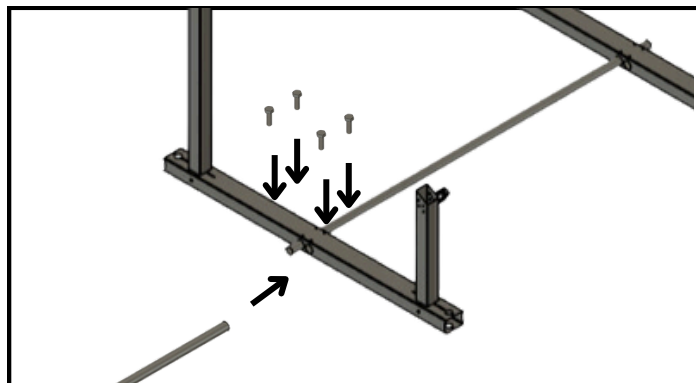

Figure 7
Slide the next IR-30s along the conduit pipe and space them roughly where they will need to be according to your solar module's width (make sure the conduit pipe goes through the same opening on each IR-30). Once the end of the first conduit pipe is reached, insert the next conduit pipe through the other opening on the last IR-30 Frame (See Figure 7). Repeat this until all IR-30 Frames are connected by the conduit pipes and are spaced roughly to your solar module's width.
Once all IR-30 Frames are in place, start bolting the frames directly to the conduit pipe. Use a tape measure to confirm distance between frames is correct before bolting each one to the conduit pipe. Each IR-30 Frame will require (2) M8-1.25 x 16mm Thread Cutting Bolts to lock it in place on the conduit pipe. IR-30 Frames connected to two conduit pipes will require all (4) M8-1.25 x 16mm Thread Cutting Bolts (See Figure 7).